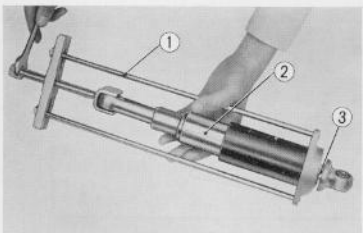

Fig. 4.78 Disassembling rear cushion
- ① Rear cushion disassembly and assembly tool
- ② Rear cushion
- ③ Rear cushion lock nut
2. Compress the rear cushion upper case with a special tool ① (tool No. 07035-03301) and take out the rear cushion lock nut ③. Remove the upper case. (Fig. 4.78)